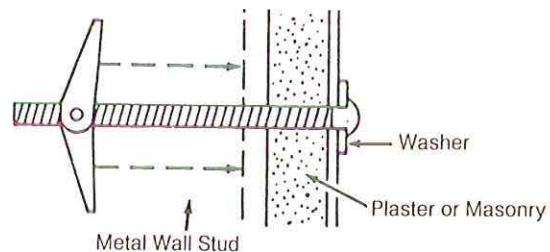

Figure 5. Mounting on Metal-Framed Wall
- b. **To mount on metal framed walls**, mount the controller to a backing board as described in step 2a. or mount directly to framing (Figure 5). The backing board should be mounted to the framing with screws and expansion sleeves in drilled holes.